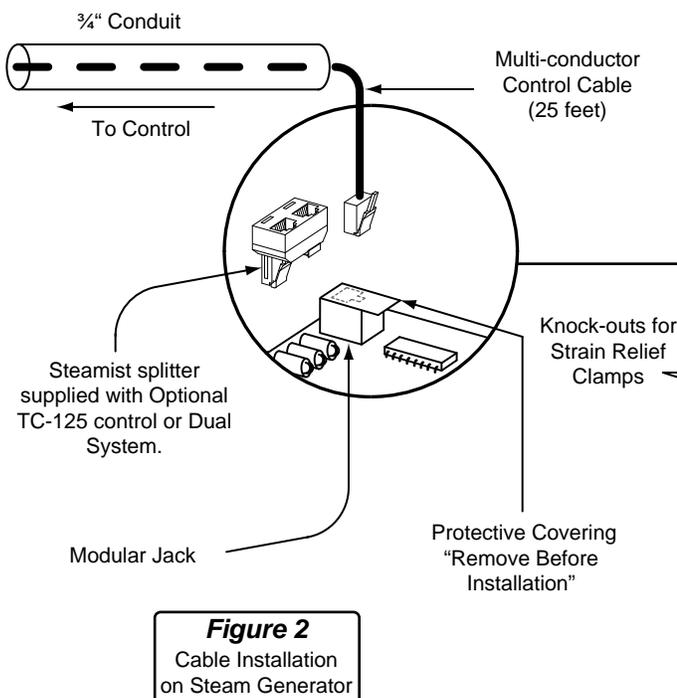

Figure 2
- a) Remove the multi-conductor cable from the control packing box. Carefully route the multi-conductor control cable from the steam generator to the TC-150 located inside the steamroom (see Figure 2). Route multi-conductor cable through a ¾" conduit to protect the cable from damage and to facilitate replacement if necessary.
- a) Locate the previously installed cable and black plastic strain relief clamp which is in the control packing box. Locate the knock-out on the steam generator for the control cable (see Figure 2).
- c) If TC-150 is used in conjunction with the optional TC-125 control or Dual System, plug the splitter into the modular jack, this will allow two cables to be plugged into the PC board (see Figure 2).
- f) Locate Telco Jack at female coupler, on back of the TC-150 control. Remove the protective covering labeled "Remove before Installation". Remove protective cap from cable and plug into jack. Check that the orientation of the plug properly aligns with the jack. A snap will indicate the plug is installed correctly (see Figure 2).